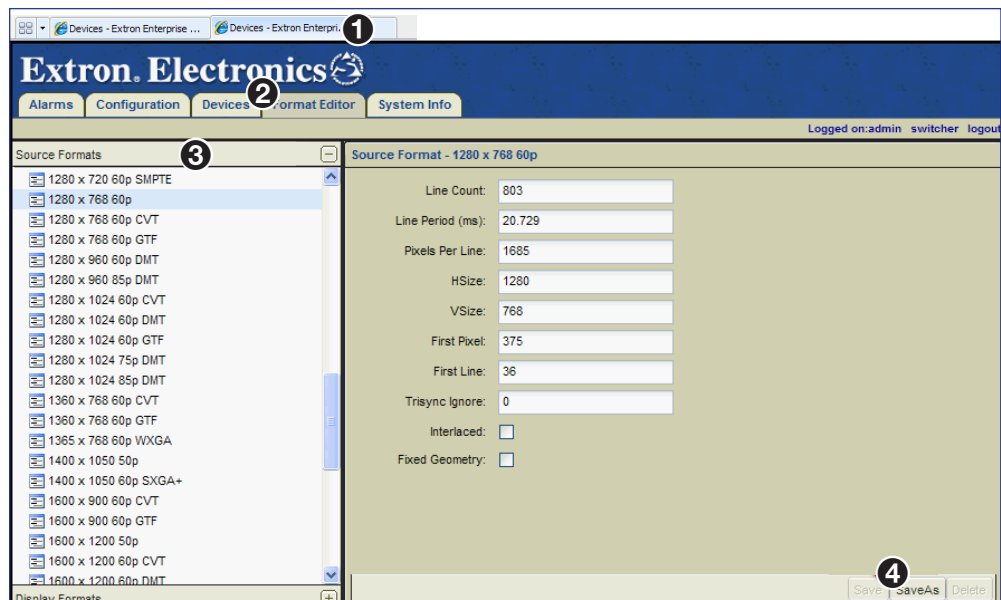

Figure 122. Source Format Editor Page (VN-Matrix 2xx Only)
13. Enter 0 in the **Pixels** field (⑤).
14. Enter 0 in the **Lines** field (⑥).
15. Using the right tab (see figure 122, ①), select the **Format Editor** page (②).
16. Select an input mode from the list of source formats (③).